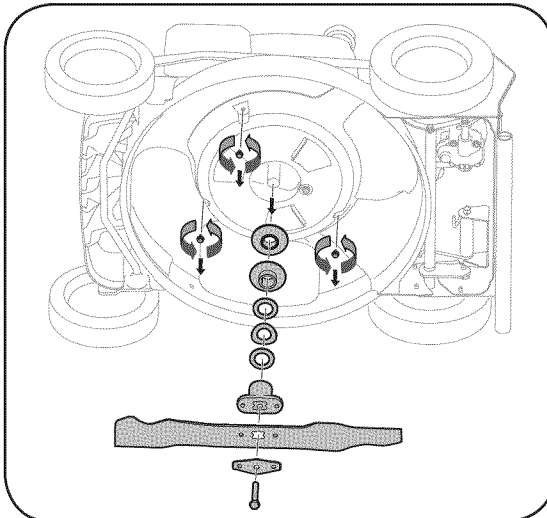

Figure 5-4: Remove blade, hardware, and baffle screws.
5. Remove blade, blade adapter, and related hardware. **Be sure to make note of the orientation of these items for reassembly.** Remove the three hex screws holding baffle to the deck, Figure 5-4.